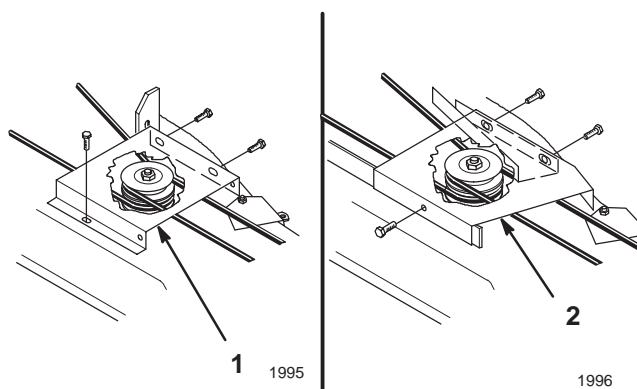

Figure 31
1. Remove the mower belt cover from the right side pulley (Fig. 31).